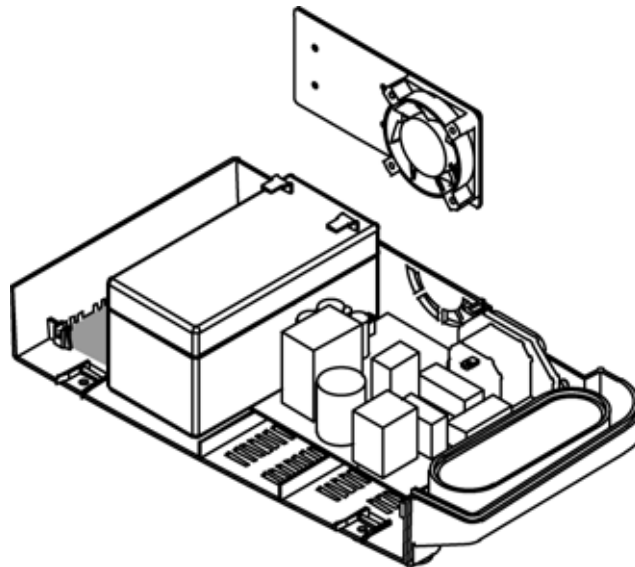

Figure 33: Fan and Bracket Removal
5. Lift the fan and bracket out of the bottom case. See Figure 33.